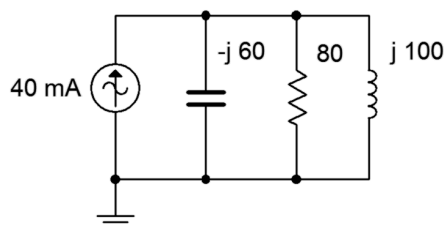

Figure 3.14
21. Determine the source voltage for the circuit shown in Figure 3.14.
22. Determine the component currents for the circuit shown in Figure 3.14. Draw phasor diagram of the source and branch currents.
43. Is it possible to change the value of the resistor in Figure 3.14 so that the system voltage is 4 volts? If so, what is the value? If not, why not?
44. Is it possible to change the value of the inductor and/or capacitor in Figure 3.14 so that the system voltage is 4 volts? If so, what is/are the values? If not, why not?